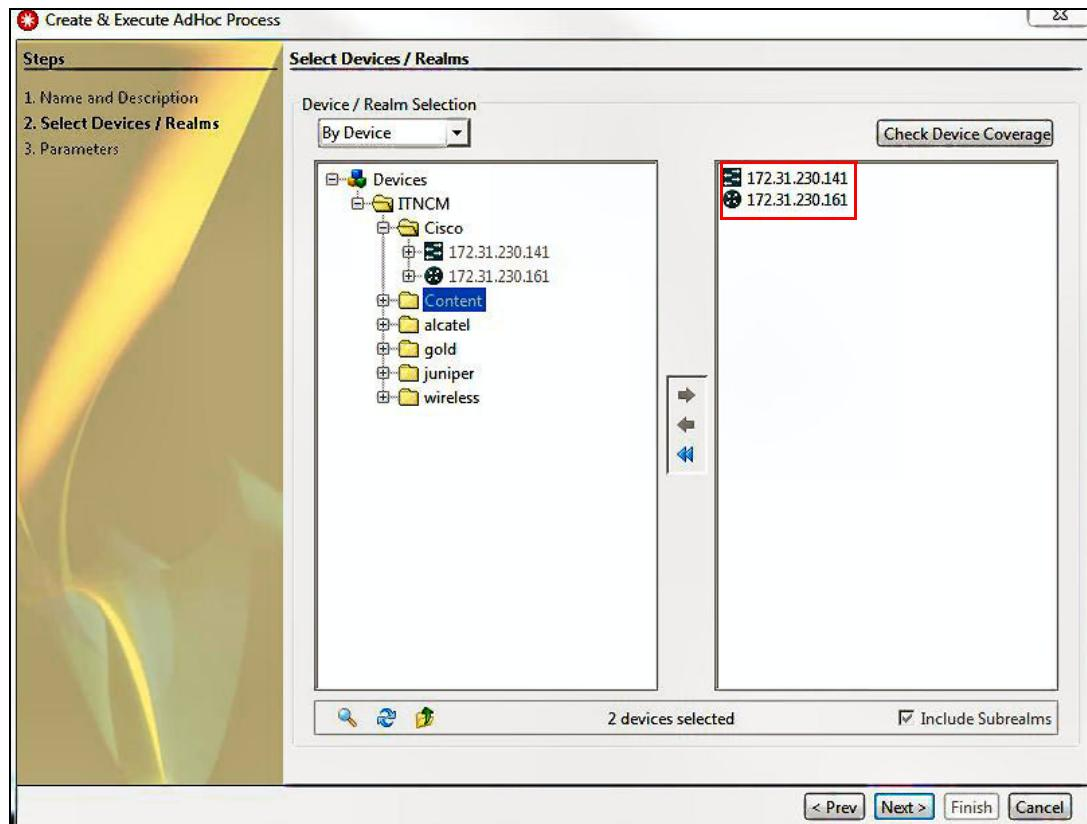

Figure 4-17 Device Selection
2. Select the Realm or Devices that are to be used for testing and click **Next**, as shown in Figure 4-17.